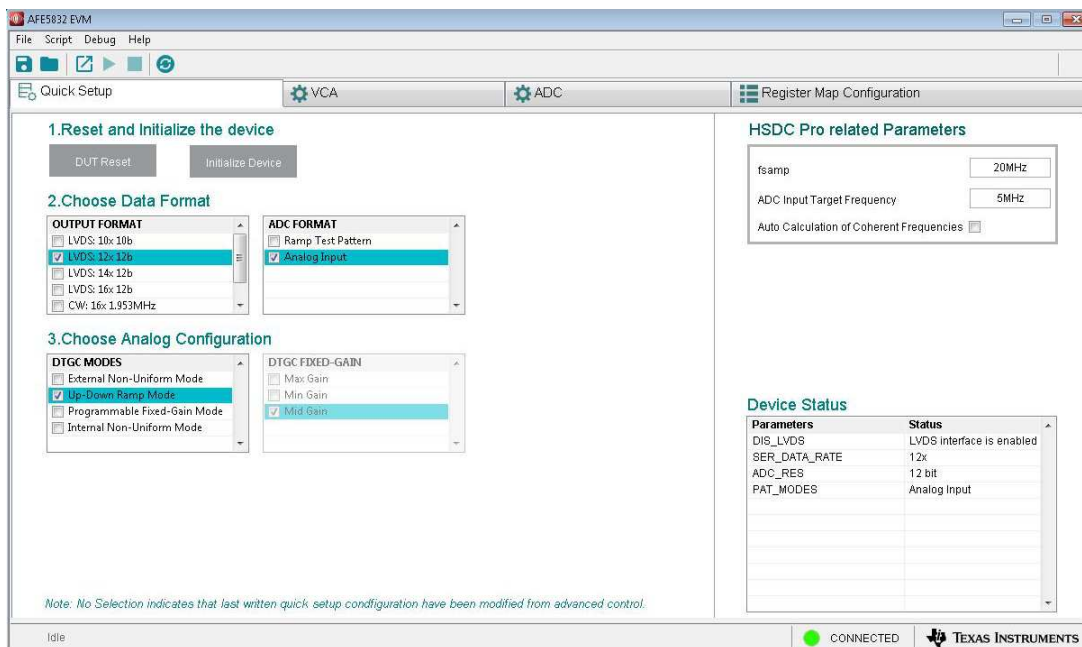

Figure 16. DTGC Mode Test: Change GUI Configuration
- Change the DTGC Mode on the AFE5832 EVM GUI to 'Up-Down Ramp Mode' and configure the other formats as shown in Figure 16: